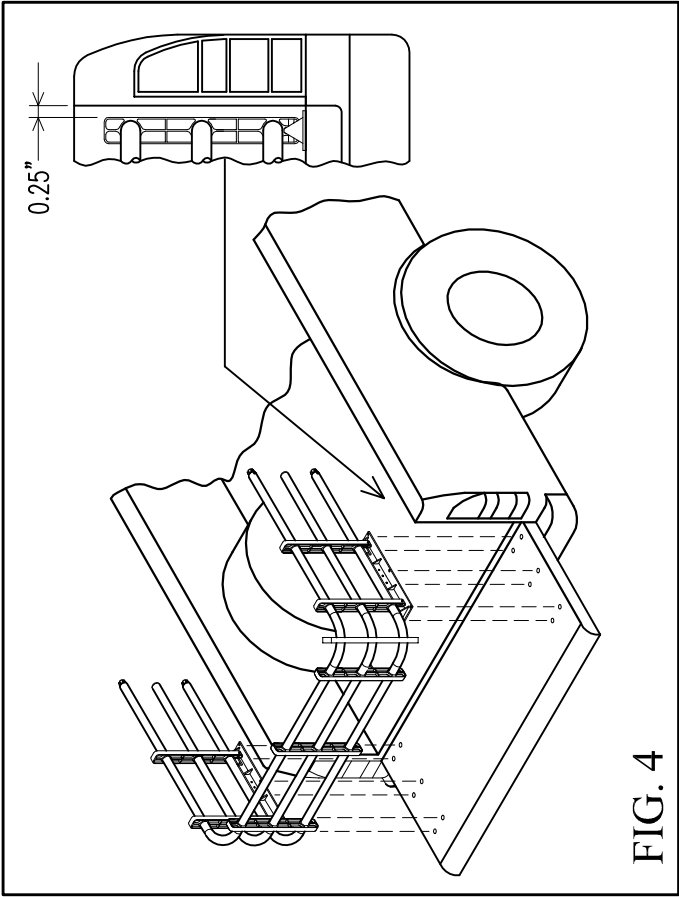

FIG. 4
7. **See Fig 4:** Set the assembled Bed Extender on the tailgate and decide where you want to position the mounting brackets.
8. Installing the mounting bracket on the tailgate **without a tailgate protector** (see Fig 4): **Note** – the mounting bracket is very durable and will not interfere with other objects placed on the tailgate when the Bed Extender is not in use.